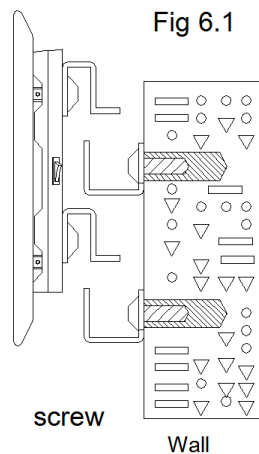
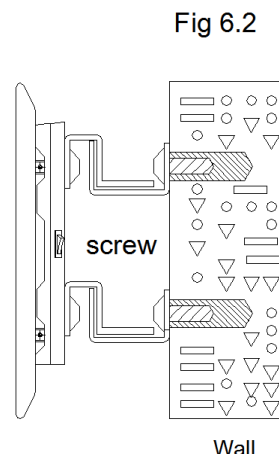

Fig 6.1
Fig 6.2
6. Hang the heater to the wall,making sure that the wall support will fit well on the heater 's **brackets**. (Fig 6.1 and Fig 6.2)